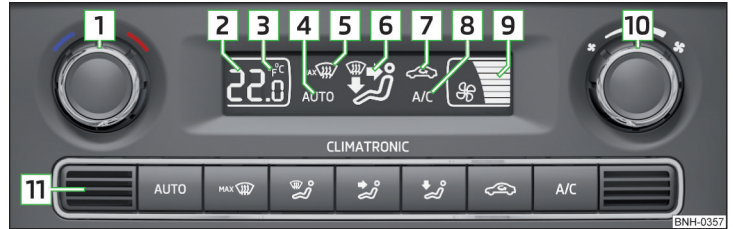

Fig. 86 Controls the Climatronic
To **switch on** press the Symbol key . The symbol  (pos. **7**) » Fig. 86 on page 88) appears in the display.
**Functions of the various controls and display** » Fig. 86
The set temperature value appears in the display (pos. 2 » Fig. 86).
The information appears in the display in the desired temperature measuring unit (pos. 3 » Fig. 86).
The blower speed set is indicated by displaying the corresponding number of segments (Pos. 9 » Fig. 86) in the display.
To **switch on** press the button **AUTO**. The display shows **AUTO** (pos. 4 » Fig. 86).
- Do not stick anything on or cover the interior temperature sensor 11 » Fig. 86; it could have an unfavourable effect on the Climatronic system.